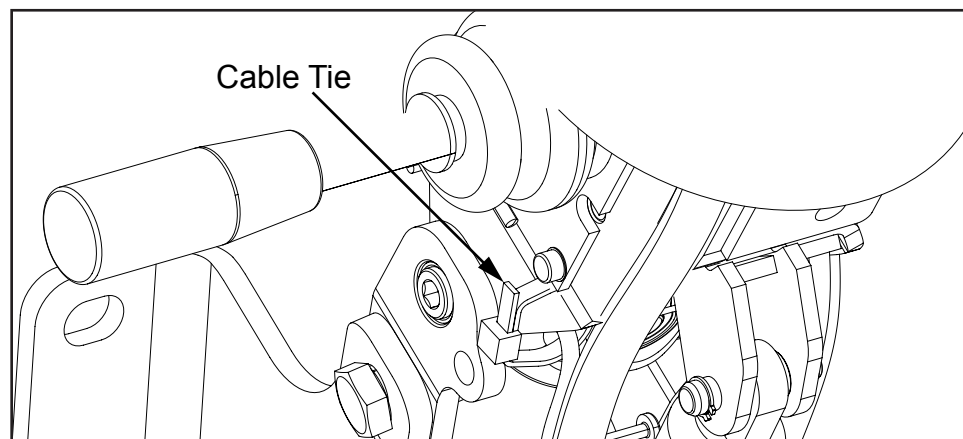

Figure 6
7. Using (1) 948210 Cable tie, secure the tilt cable as shown (see Figure 6).